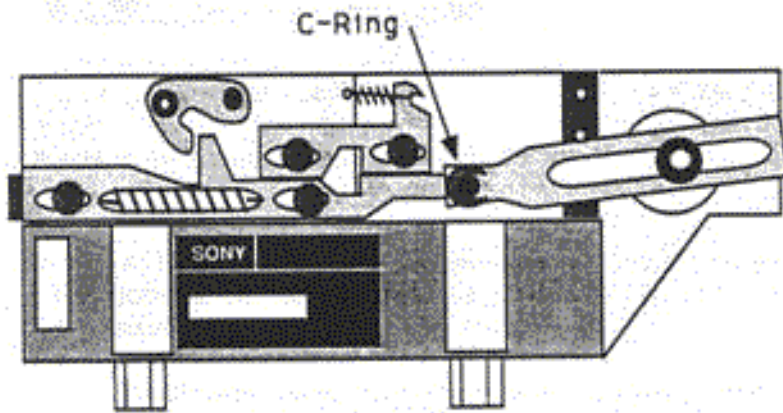

Figure 18
5. Use a small 1/8-inch slotted screwdriver to remove the C-ring shown in Figure 18.